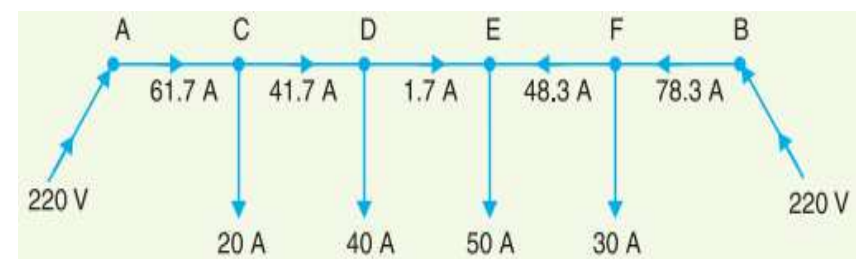

Fig.2
- The actual distribution of currents in the various sections of the distributor is shown in Fig.2.